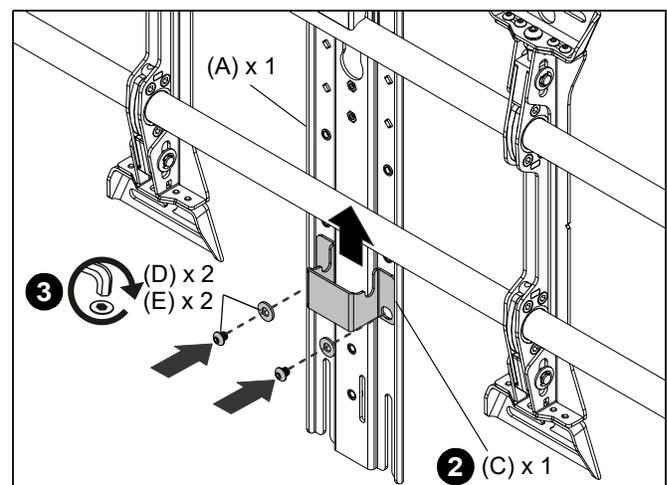

Figure 4
2. Slide center rail bracket (C) underneath lower rail on wall mount, lining up holes on rail bracket to upright assembly (B). (See Figure 4)
3. Reinstall two 1/4-20 x 1/4" button head cap screws (E) and two small washers (D) to secure center rail bracket (C) to upright assembly (A). (See Figure 4)